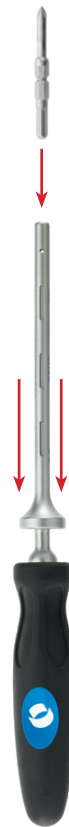

Fig. 6a
**Tacks (86-9031 Threaded or 86-9032 Smooth)** are available to temporarily hold the plate during screw hole preparation. Load the tack onto the tack holder by inserting a tack into the tip of the instrument while retracting the outer sleeve. (Fig. 6a)